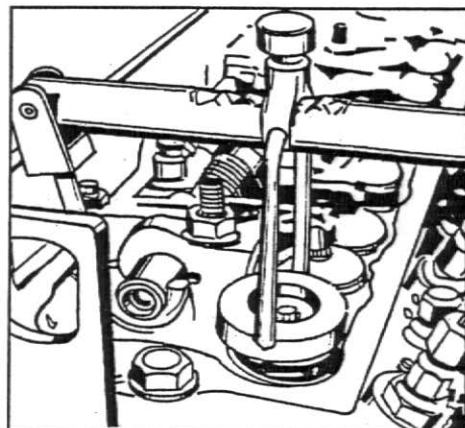

Fig. 11
2. Comprima as molas e remova as travas das válvulas, ferramenta nº 81 30 002, fig.11.